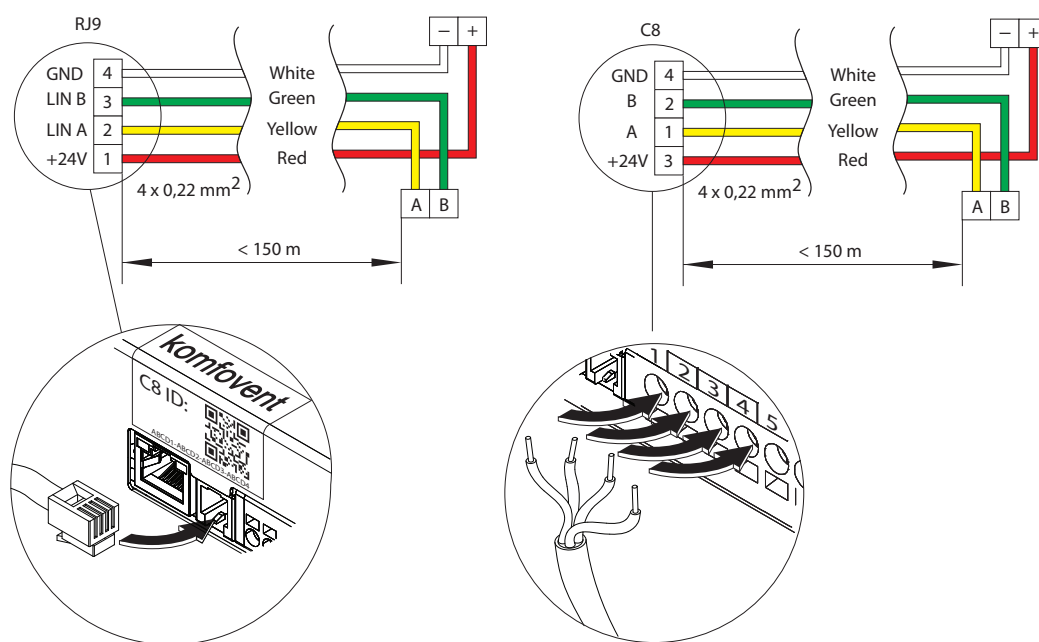

Fig. 14. Control panel cable wiring diagram
- Control panel (see. Fig. 14)
- **Outputs TG1 (6–8)** – Power supply and control signal for a water mixing valve actuator of the external heat exchanger or direct evaporation (DX) cooler/heater. Depending on the “External coil” type selected in the settings (see “Domekt User Guide”), the valve actuator will be controlled by a heating or cooling signal.
Control panel cable is connected to the C8 main board as shown in Fig. 14. If needed, the panel cable can be also connected to an external RJ10 connector.